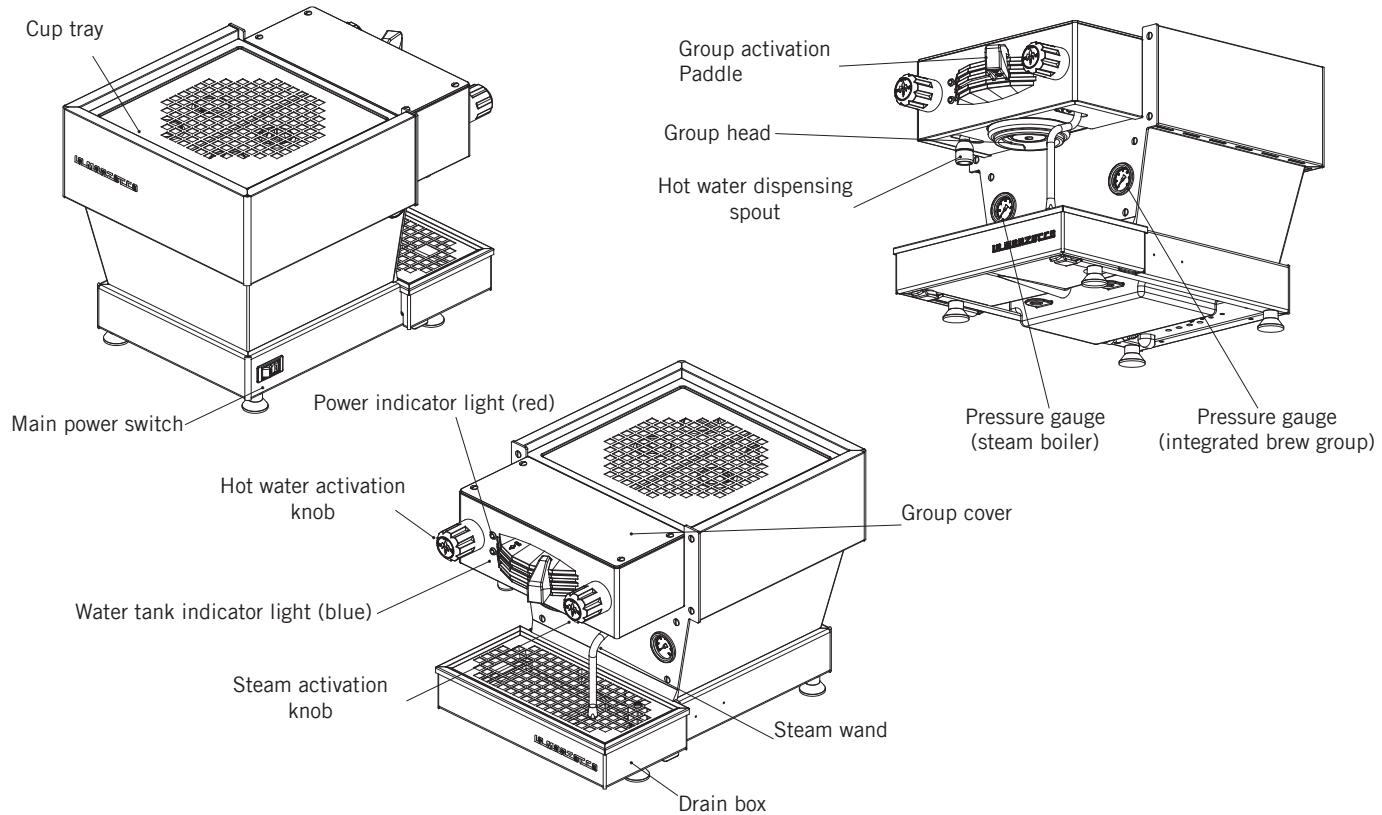

Figure 1 - Machine Description
2. Brewing coffee. It is now possible to remove the portafilter to make a coffee beverage. Place some ground coffee in the portafilter basket using the single or double basket. Press down on the ground coffee with the supplied tamper and install the portafilter on the linea mini. Move the paddle handle from right to left to begin brewing (see Fig.1 page 8).